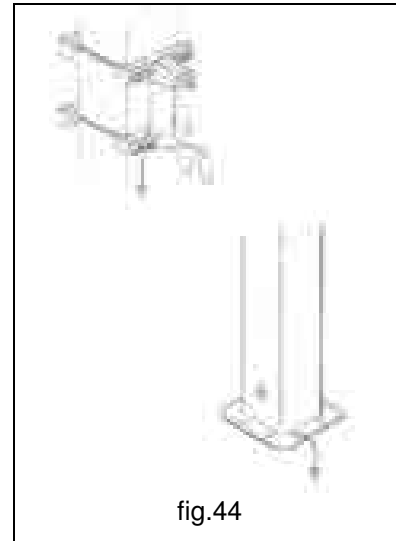

fig.44
- Have earthing connected, to the structure of the crane, corresponding to the handling points for this purpose( fig.44 ).